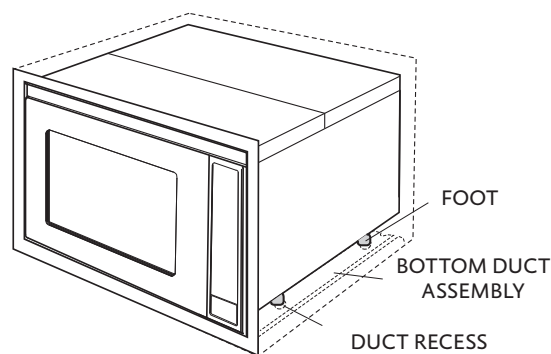

Figure 10
C. **CABINET INSTALLATION:** Avoid pinching the cord between the oven and the wall. Adjust the position of the oven so that the feet of the oven are fitted into the holes of the Bottom Duct Assembly. See Figure 10.